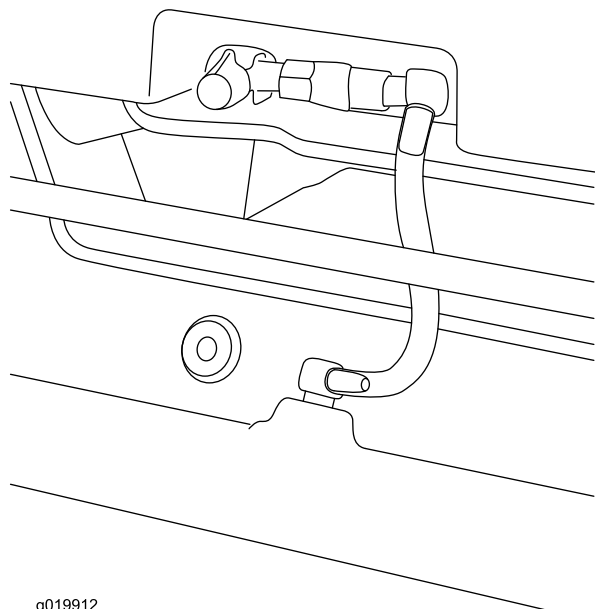

Figure 9
1. Detach the valve coupler (Figure 9).